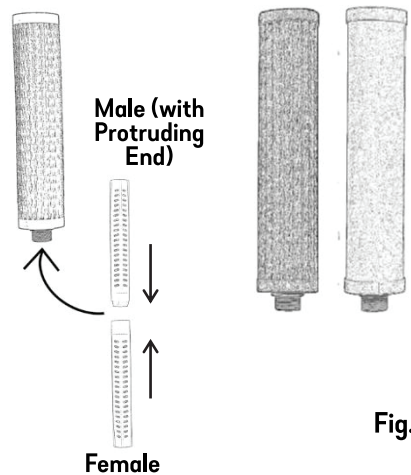

Fig.4
5. Take out the cartridge (Disruptor/Ceramic) from the box. Connect the male and female stick capsules and insert into the filter element cap. (Fig. 4)